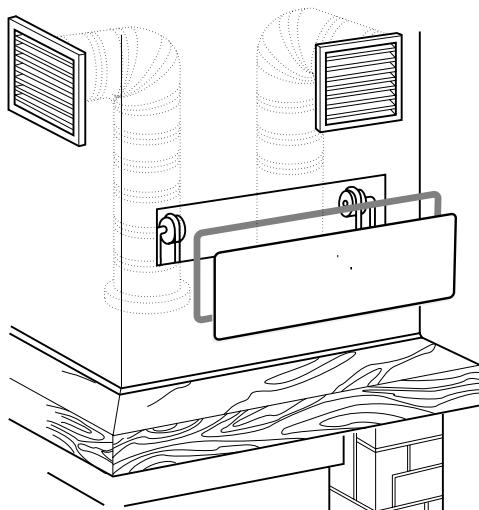

Fig. 5.9.0.1
5.9 CONTROCAPPA E PANNELO ISPEZIONE (FIG. 5.9.0.1)